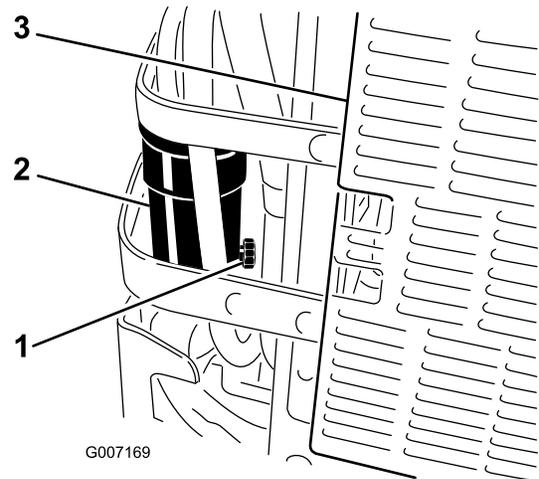

**Figure 54**
**Important:** Add the oil very slowly and do not block the opening of the filler hole (Figure 54). If you add oil too fast or block the hole, the oil could back up and foul the air intakes, causing engine damage.